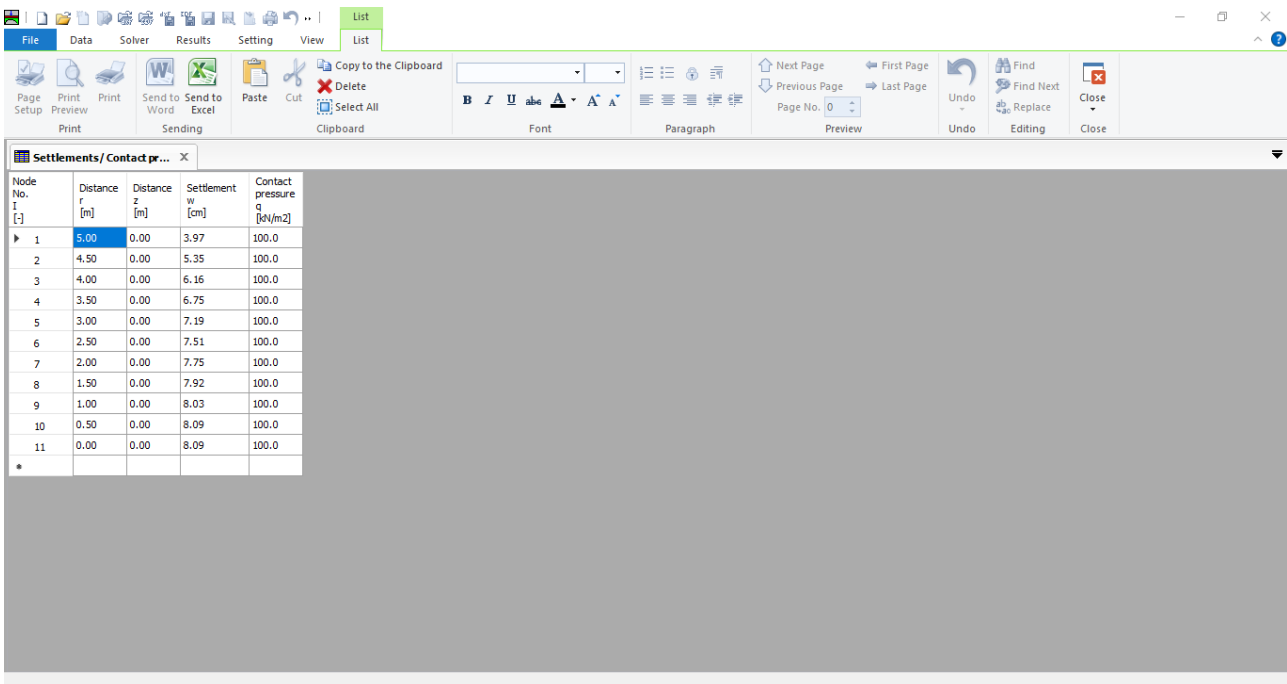

Figure 1.25 List of loading data
- Click "OK" button. The loading results are now listed (Figure 1.25)